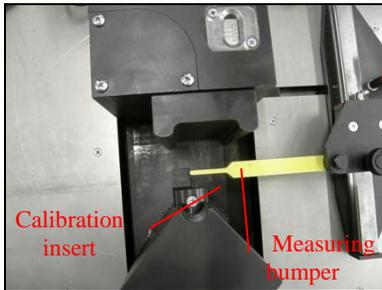

Fig. 53
- Push the measuring stop to the plane of calibration insert (Fig. 53). Hold the immobilized stop and press L1 on the panel located at the height of the window "DISTANCE "L" (Fig. 54)